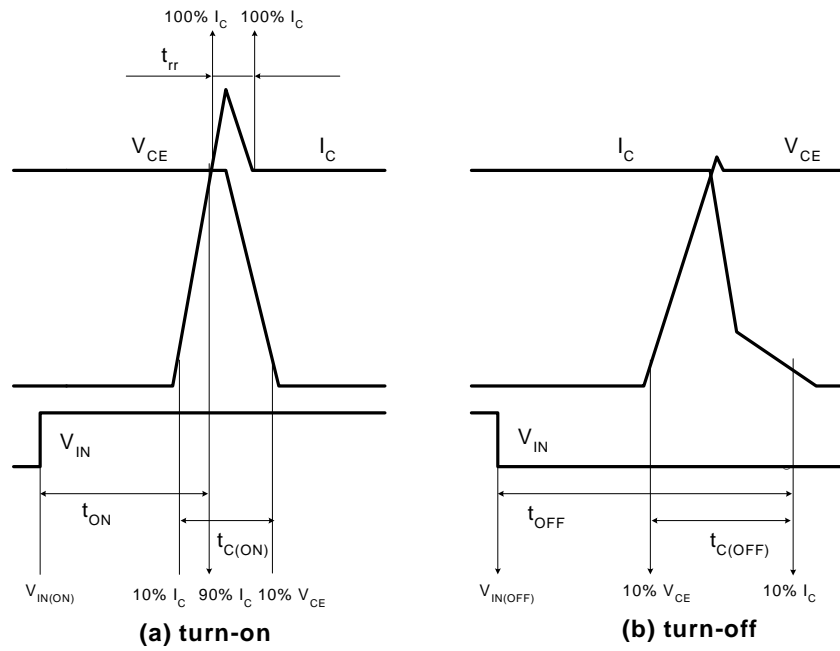

Figure 4. Switching Time Definition
3. t_{ON} and t_{OFF} include the propagation delay of the internal drive IC. $t_{C(ON)}$ and $t_{C(OFF)}$ are the switching time of IGBT itself under the given gate driving condition internally. For the detailed information, please see Figure 4.